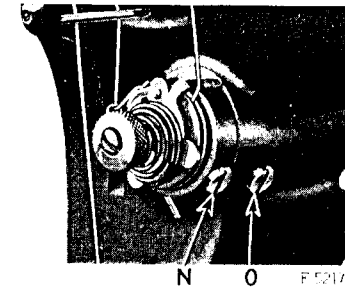

Fig. 25. Adjustments of Thread Controller
For more controller action on the thread, loosen the stop screw (N, Fig. 25) at the right of the tension and set the stop lower, and for less action, set the stop higher.
To strengthen the action of the controller spring on the thread, loosen the tension stud screw (O, Fig. 25) at the right of the stop screw and turn the tension stud slightly to the left with a screwdriver, or to lighten its action on the thread, turn the tension stud to the right and tighten the tension stud screw (O).